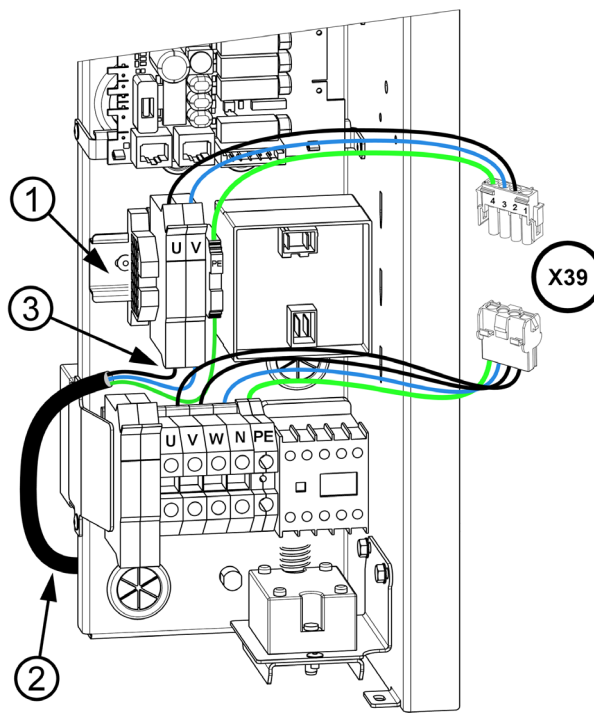

Figure 19: Connecting the 623 hood set
Attach the fuse holders and terminal from the hood set to the DIN rail (1) at the front of the electrical board (see fig. 19)
Connect the individual wires of the hood's power cable (2) from below (3) to the fuse holders and to terminals PE from the hood set (see fig. 19).